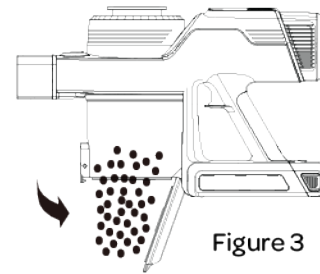

Figure 3
4. Empty out the dirt and debris from the Dust Bin Assembly into a trash receptacle. (Figure 3)